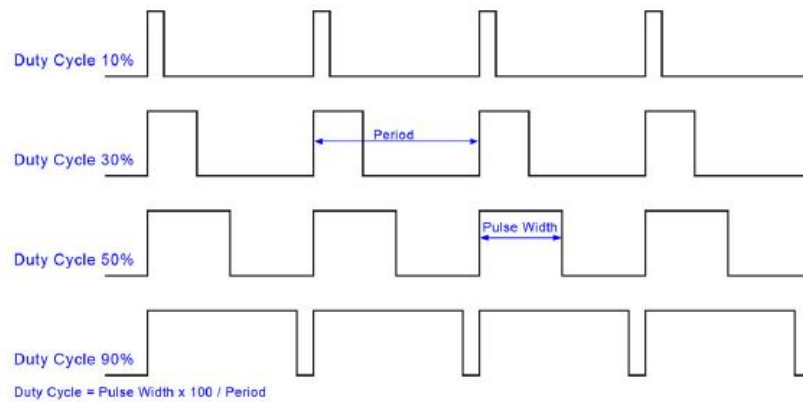

Figure 1: Pulse width modulation
- (a) You will configure the timer T0 to generate a pulse width modulated (PWM) signal whose duty cycle is controlled by the user. Figure 1 shows typical PWM signals. Read the switches P1.0-P1.2 to accept the duty cycle from the user. Write a program to generate a PWM with the duty cycle corresponding to the switch positions as indicated in Table 1. Set the frequency of PWM signal be 0.5 Hz and use the LEDs P1.4-P1.7 (though one is sufficient) to monitor the generated output. The PWM information has also to be written out on the LCD in the following format. First row of the LCD should display the duty cycle in percent as Duty cycle: xx ; where xx depends on the switch value. Second row should display the pulse width as Pulse width: tttt; where tttt represents  $tttt \times 10^{-3}$ s.